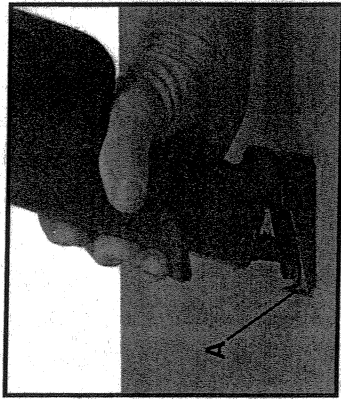

Fig. 5
The shoe (A) Fig. 5, serves as a rest while making a cut. It is pivoted so the saw may be gradually raised to a position perpendicular to the work as the saw is moved toward the operator.